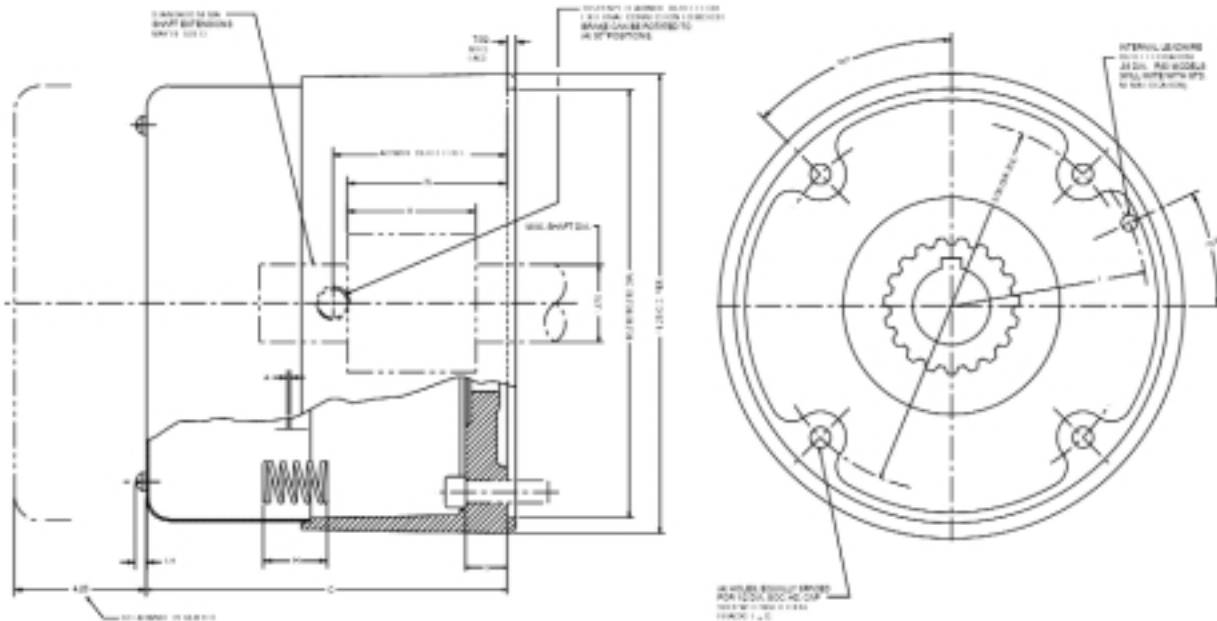

Figure 5. Standard Housing
1. Remove hub (22) from brake and position on motor shaft with key according to dimension "N". Stamped part number on hub should face away from motor. Tighten hub set screws with 12 lb. ft. torque.
2. Remove cover screws (17) and cover (18).
4. Bolt brake to motor "C" face with four 1/2 inch socket head cap screws. See Figures 5 and 6 for screw length thru bracket.